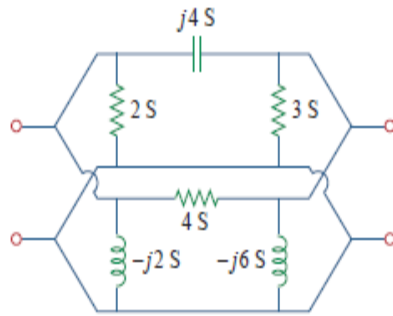

Fig. 9
c) Find the y parameters of the two-port in Fig.9 [8M]